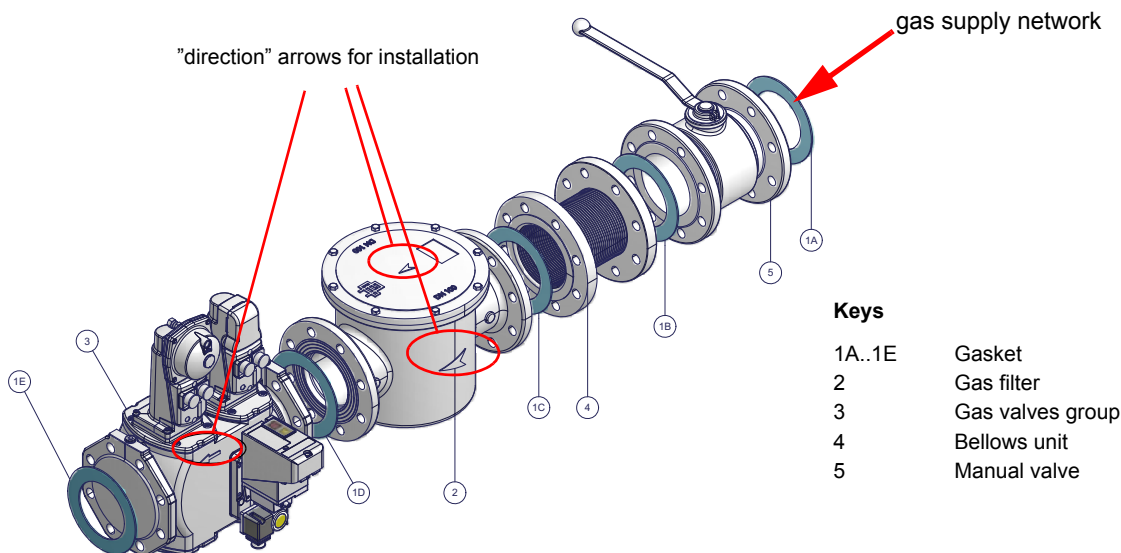

Fig. 4 - Example of gas train
- 1-b) in case of flanged joints: place a gasket (no. 1A..1E - Fig. 4) between the elements
ATTENTION: once the gas train is mounted according to the diagram on Fig. 4, the gas proving test must be performed, according to the procedure set by the laws in force.